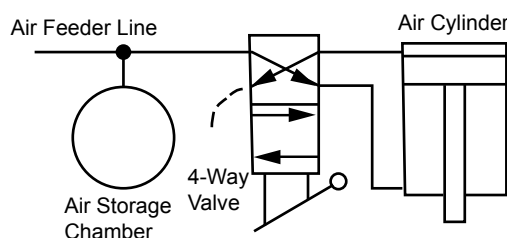

Figure 4. Add air storage chamber at 4-way valve inlet machines where feed line is long or restricted.
6. **Figure 4.** If an air-operated machine is installed at the end of a long distribution line and the pressure is low because of restrictions in the long feeder line or because other machines rob the air before it reaches the machine, an air storage tank can be installed near the pressure inlet of the 4-way valve. During periods when the machine is not running, air volume will accumulate in the tank and the pressure at the inlet of the valve will be higher, on the average.